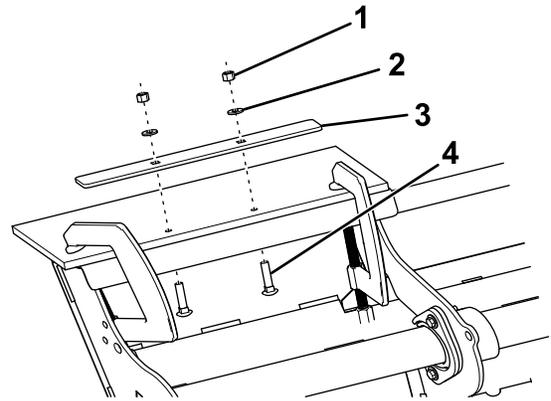

**Figure 12**
**Note:** If your plow does not have holes to use as a guide, use Figure 12 as a guide for where to drill.
5. Secure 4 square straps to the holes in the long belting using 8 carriage bolts (5/16 inch), 8 washers (5/16 inch), and 8 nylon locknuts (5/16 inch) as shown in Figure 12.